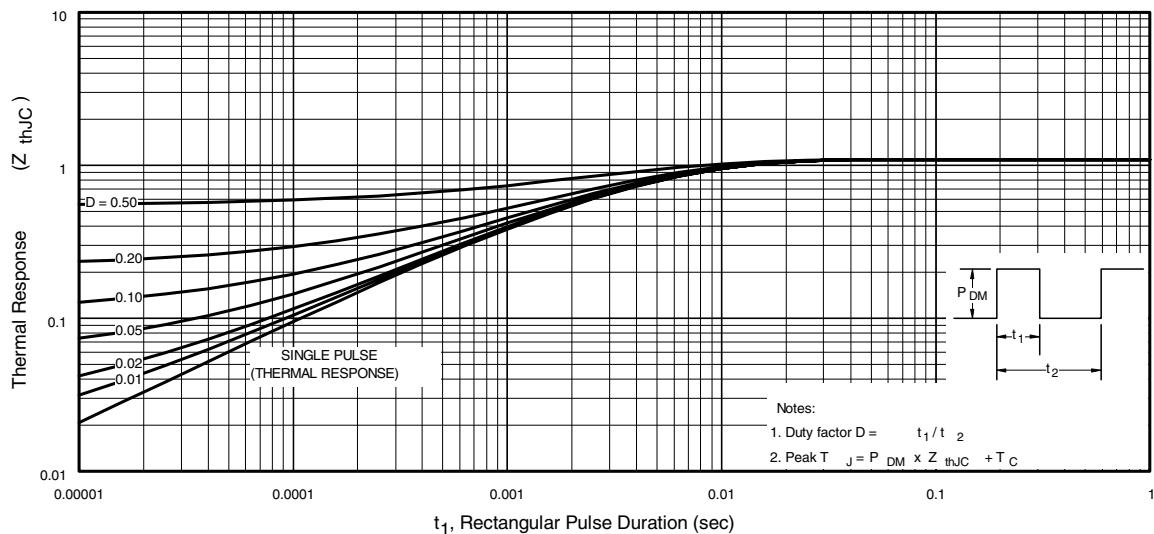
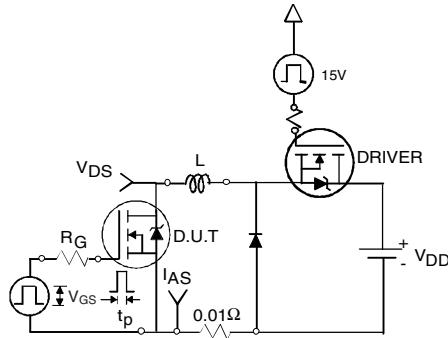

Fig 11. Maximum Effective Transient Thermal Impedance, Junction-to-Case
Fig 12a. Unclamped Inductive Test Circuit
| I_{AR} | Avalanche Current ① | See Fig.12a, 12b, 15, 16 | A |
3. Equation below based on circuit and waveforms shown in Figures 12a, 12b.
$Z_{thJC}(D, t_{av})$ = Transient thermal resistance, see figure 11)
- ① Repetitive rating; pulse width limited by max. junction temperature. (See fig. 11).
- ② Limited by T_{Jmax} , starting $T_J = 25^\circ C$, $L = 0.52mH$, $R_G = 25\Omega$, $I_{AS} = 30A$, $V_{GS} = 10V$. Part not recommended for use above this value.
- ③ $I_{SD} \leq 30A$, $di/dt \leq 170A/\mu s$, $V_{DD} \leq V_{(BR)DSS}$, $T_J \leq 175^\circ C$.
- ④ Pulse width $\leq 1.0ms$; duty cycle $\leq 2\%$.
- ⑤ $C_{oss\ eff}$ is a fixed capacitance that gives the same charging time as C_{oss} while V_{DS} is rising from 0 to 80% V_{DSS} .
- ⑥ Limited by T_{Jmax} , see Fig.12a, 12b, 15, 16 for typical repetitive avalanche performance.
- ⑦ This value determined from sample failure population. 100% tested to this value in production.
- ⑧ When mounted on 1" square PCB (FR-4 or G-10 Material). For recommended footprint and soldering techniques refer to application note #AN-994.